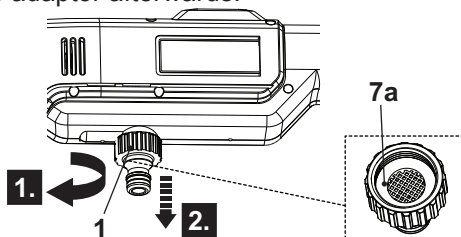

Fig. 14
1. Unscrew (Fig. 14, step 1) and remove the water inlet adaptor (7) from the water inlet (step 2).